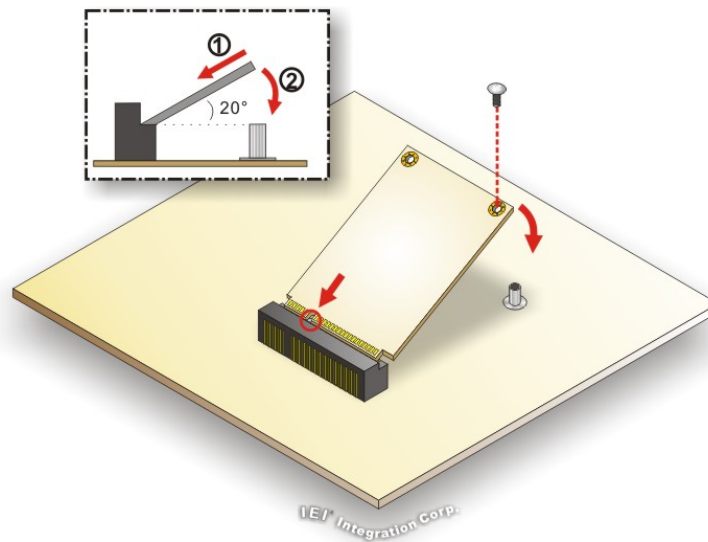

Figure 3-4: mSATA Module Installation
**Step 4:** Secure the mSATA module with the retention screw. Push the other end of the mSATA module down and secure the module with the previously removed retention screw (**Figure 3-4**).